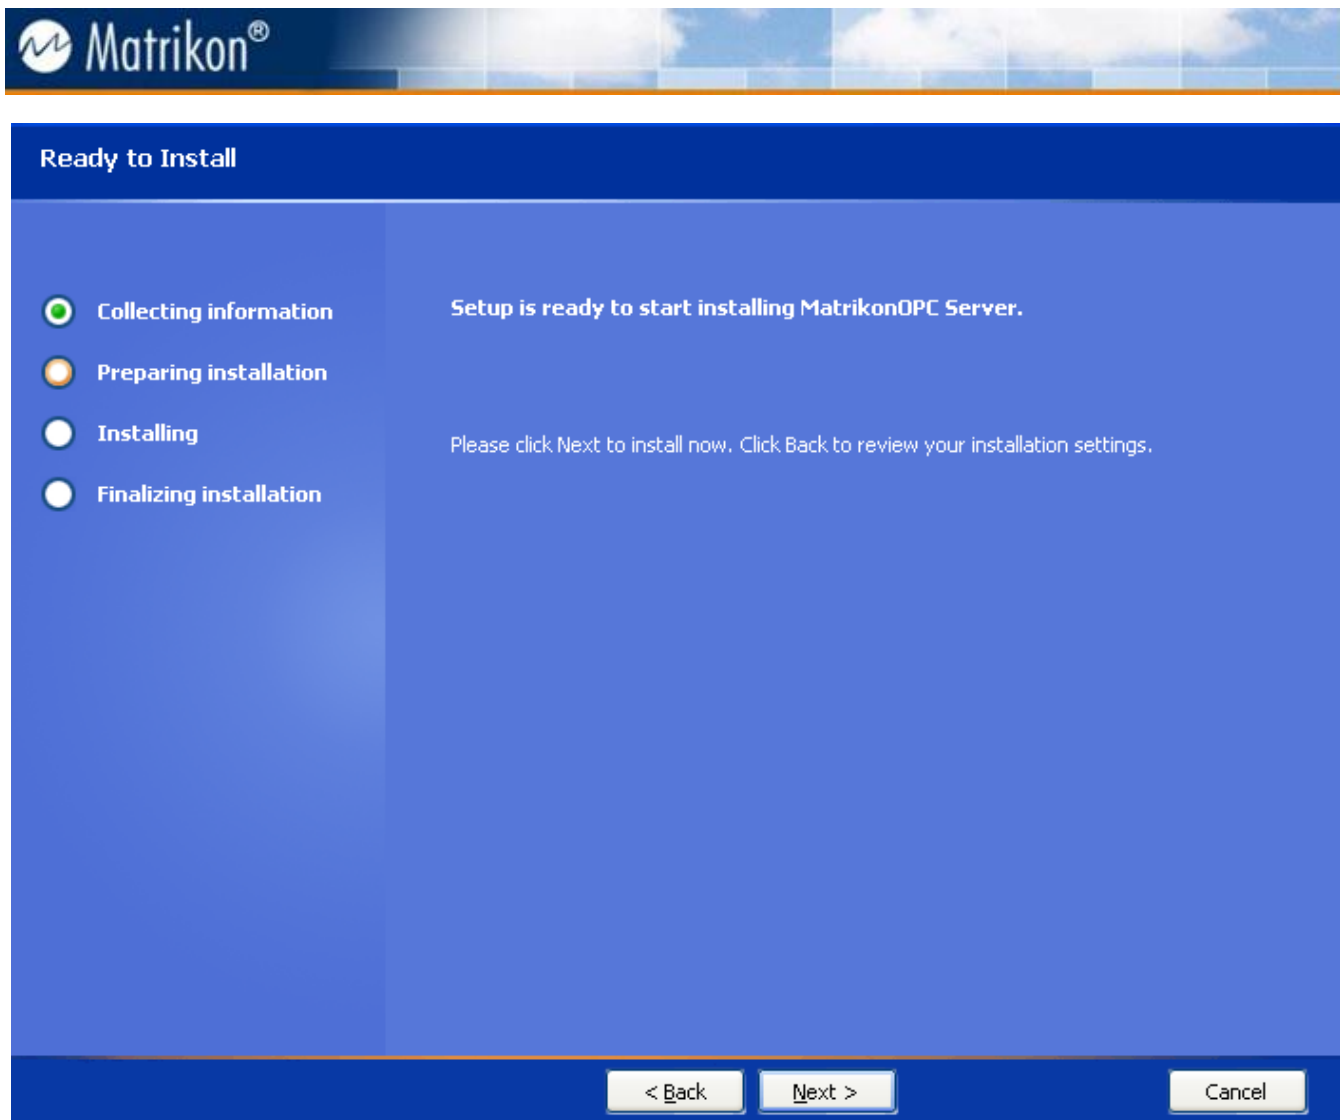

Figure 86 - Ready to Install Screen
20. Click on the **Next** button. The **Ready to Install** screen (Figure 86) appears.